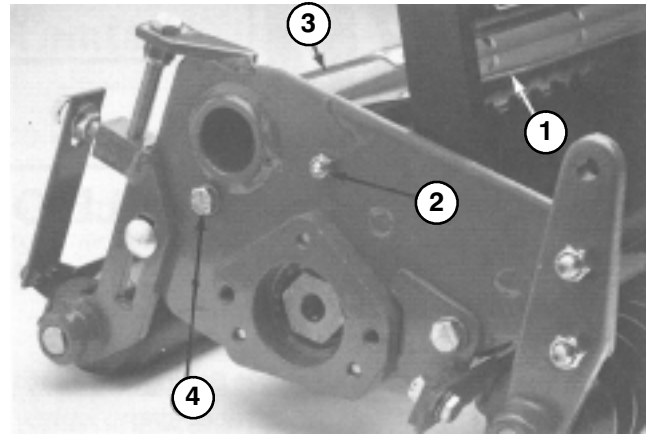

Figure 3
ADJUSTING FRONT GRASS SHIELD (Fig. 3)
1. Loosen the (2) capscrews retaining the front grass shield (Fig.3).
2. Pull top of front grass shield to desired height and tighten (2) capscrews.
ADJUSTING REAR GRASS SHIELD (Fig. 3)
1. Loosen the cap screw on the right side of the dethatcher reel, located on the pivot of the rear grass shield (Fig. 3).